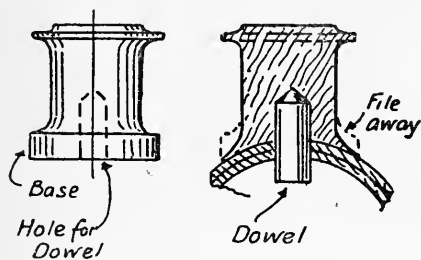

Fig. 12.—Funnel Turned from Wood
**Funnel and Dome.**—The funnel and dome (*see* Fig. 12) are best turned out of beech or box wood to the shape as shown, and if no lathe is available the builder must rely on the help of a pattern-maker or wood turner. If turned in box or other similar close-grained wood the